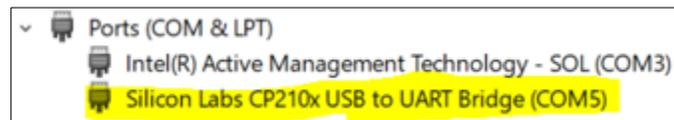

Figure 26: Device Manager Ports
- a. Select the “Serial Port” from the dropdown menu that matches the port in Device Manager that the Silicon Labs driver has been assigned to (see figure 26). In this guide, COM5 is used.
7. Prism2 will now be ready to connect with the VCCX. Left-click the Off Line button and it should change to On Line (see figure 26).